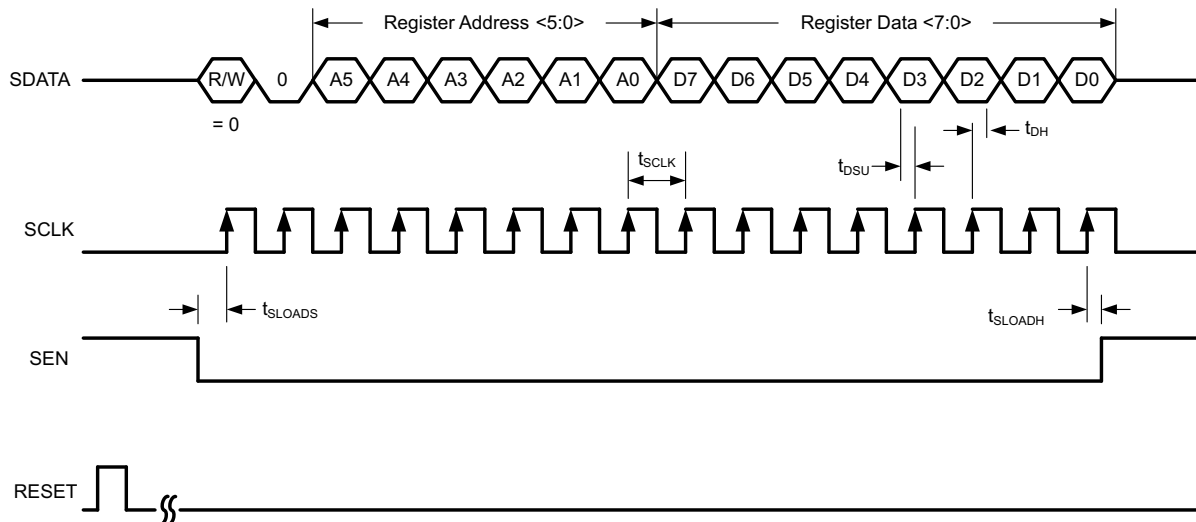

Figure 47. Serial Register Write Timing Diagram
4. Initiate a serial interface cycle specifying the address of the register (A5 to A0) whose content must be written (as shown in Figure 47 and Table 4).